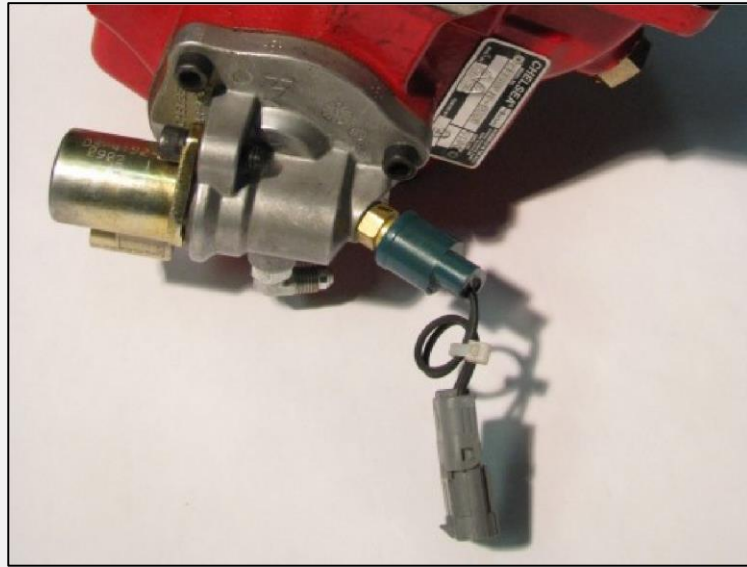

Figure 3.1: PTO Pressure Switch
1. Install oil pressure switch into pressure switch port of PTO solenoid. This is only used as a fluid plug; the wires will not be connected. The Pressure Switch may be used by Piggy-Back pump supplier if needed. Tie up the loose wires as shown in figure 3.1